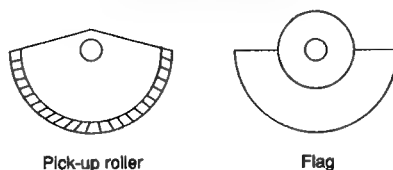

Figure 3-29
- 1) Attach the flag so that the pick-up roller and the flag are oriented as shown in Figure 3-29.